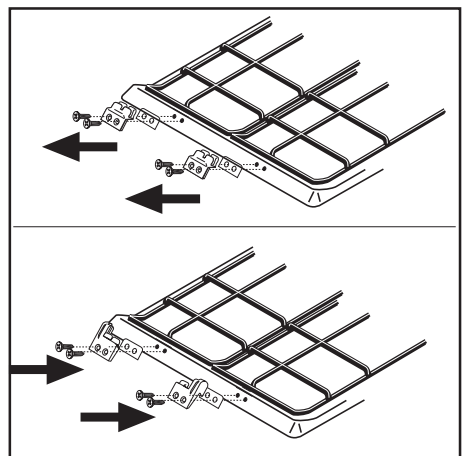

Fig. 5
- a. Remove the right and left hand grid blocks fitted to the back of the hob, by unscrewing the relevant screws (Fig. 5).